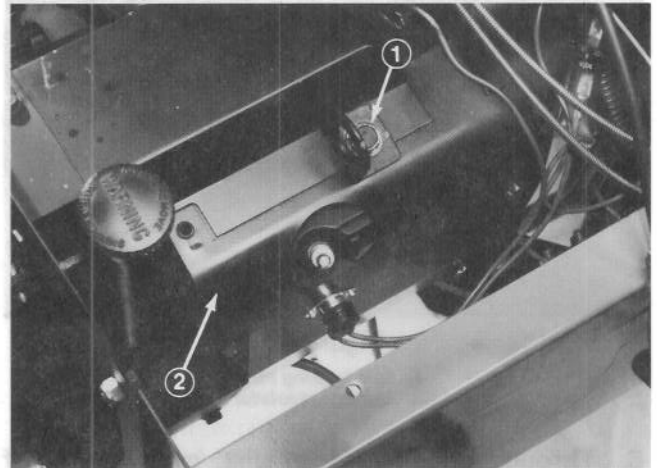

Figure 57
2. Remove self tapping screw retaining top of right engine housing (Fig. 57).